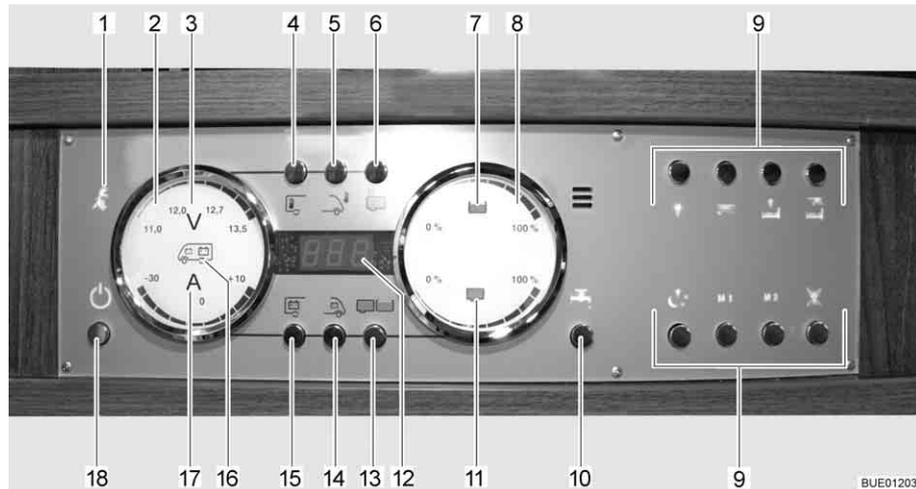

Fig. 156 Panel LT 510
The 230 V indicator lamp (Fig. 156,1) illuminates whenever line voltage is available at the transformer/rectifier input.
The 12 V main switch (Fig. 156,18) switches the panel and the 12 V power supply of the living area on and off.
- Briefly press the 12 V power supply button (Fig. 156,18). The 12 V living area power supply is switched on. The "12 V" indicator lights up.
- ▷ If, after switching on, the "11.0" LED of the volt indicator and the "V" volt symbol (Fig. 156,3) in the batteries gauge (Fig. 156,2) flash, the voltage of the living area battery is too low. Charge battery.
- ▷ If, after switching on, the "12 V" indicator and the "V" volt symbol (Fig. 156,3) flash three times, battery separation is activated. Deactivate battery separation.
- Briefly press the 12 V power supply button (Fig. 156,18). The 12 V living area power supply is switched off. The "12 V power supply" indicator goes out.
- Press button for living area battery (Fig. 156,15) and hold it down for approx. 10 seconds. The "V" volt symbol (Fig. 156,3) and the "12 V" indicator flash three times. The living area battery is disconnected from the 12 V power supply.
- Press the 12 V power supply button (Fig. 156,18) and hold it down for approx. 5 seconds. The "V" volt symbol (Fig. 156,3) and the "12 V" indicator flash three times. The living area battery is connected to the 12 V power supply. The indicator lights up after approx. 5 seconds.
- Press button for living area battery (Fig. 156,15). The "V" volt symbol (Fig. 156,3) lights up. The "A" ampere symbol (Fig. 156,17) lights up as either white or red depending on whether it is charging or discharging. The battery voltage and electricity of the living area battery are displayed via the LEDs in the gauge.
- Press button for starter battery (Fig. 156,14). The "V" volt symbol (Fig. 156,3) lights up. The battery voltage of the starter battery is displayed using the LEDs in the gauge.
- Press tanks button (Fig. 156,13). The water tank (Fig. 156,7) and waste water tank (Fig. 156,11) symbols light up. The fill levels of the water tank (upper scale) and of the waste water tank (lower scale) are indicated using the LEDs in the gauge.
**Tank alarm** The water tank symbol (Fig. 156,7) or waste water tank symbol (Fig. 156,11) flashes when the water tank is empty or the waste water tank is full.
The internal and external temperatures can be indicated using the digital display (Fig. 156,12).
- Press the button for the internal temperature (Fig. 156,4). The internal temperature is displayed.
- Press external temperature button (Fig. 156,5). The external temperature is displayed.